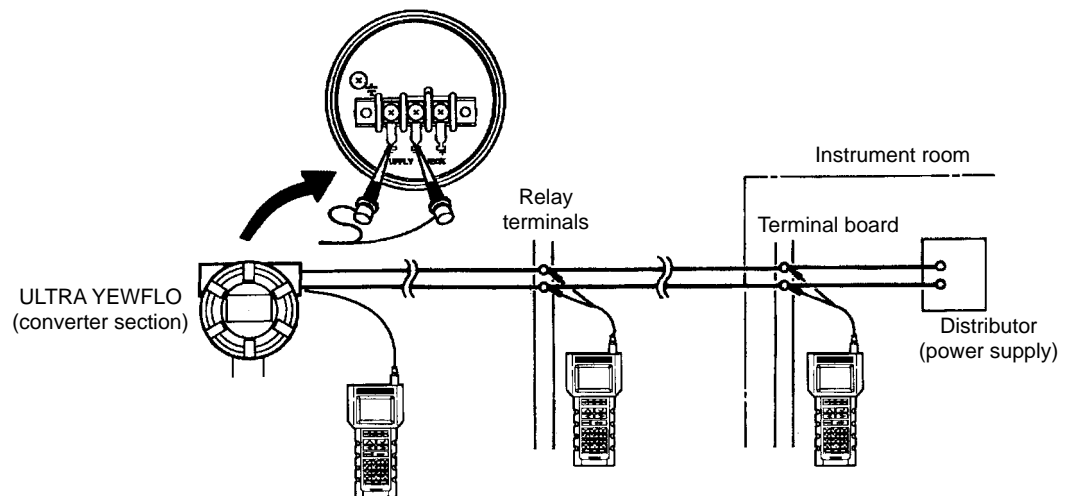

Figure 7.1-1 Connection of BT200
- A BT200 terminal can be linked with ULTRA YEFWLO through the transmission line in different ways. Connect the terminal to the connecting hooks in a terminal box or to the relay terminals on the transmission line, using BT200 communication cable with IC clip, as shown in Figure 7.1-1.
Connect the terminal to the connecting hooks in a terminal box or to the relay terminals on the transmission line, using BT200 communication cable with IC lip, as shown in Figure 7.1-1.